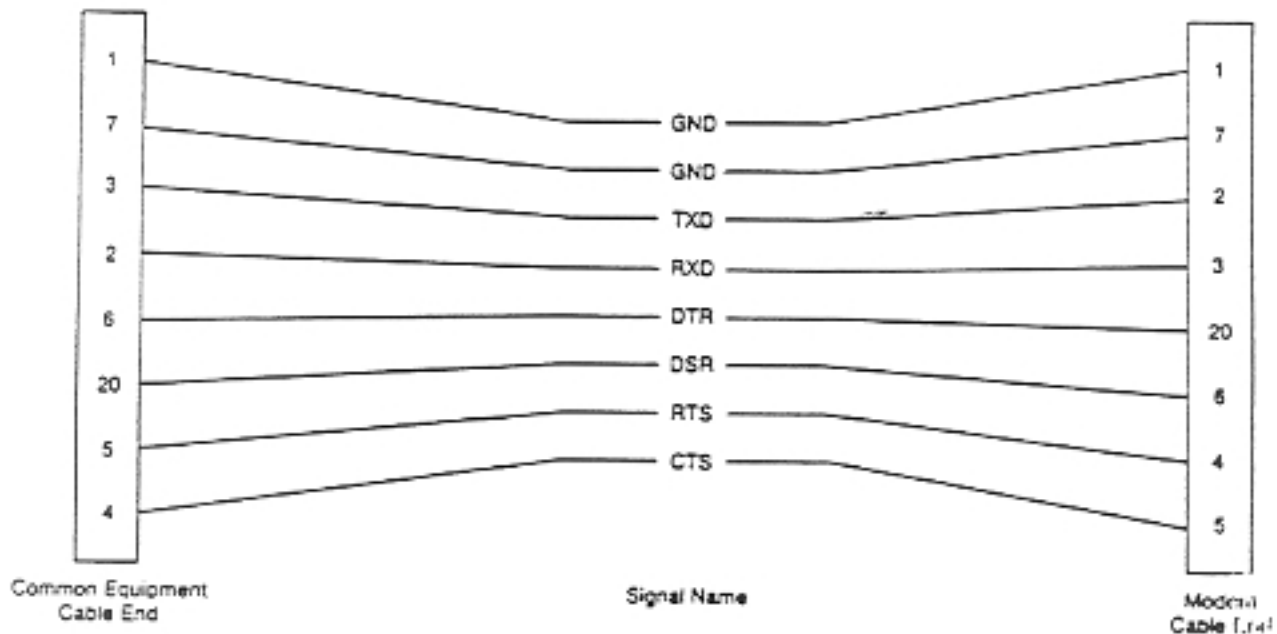

Fig. 5-2
- Since the on-board hardware already incorporates a "null modem" which swaps the positions of the DTR/DSR, TXD/RXD and CTS/RTS signal pairs (as described in Serial Interface), a special cable (Figure 5-2) is needed to connect the modem to the interface and then insure that the CTS jumper on the memory board is set to its default position connecting CTS to pin number 4. Note that the cable is symmetric and it does not matter which end is plugged into the modem.